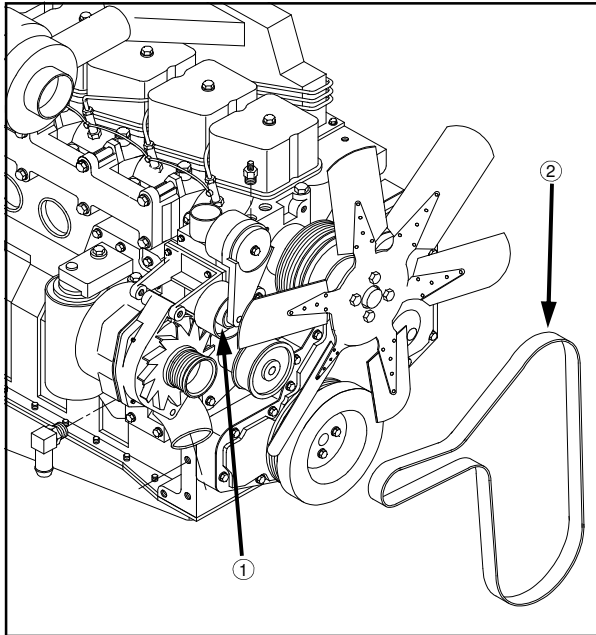

FIG 7.43
REMOVAL - Insert a 3/8 inch square ratchet drive into the belt tensioner (fig. 7.43, item 1) and lift upward to remove the belt (fig. 7.43, item 2).